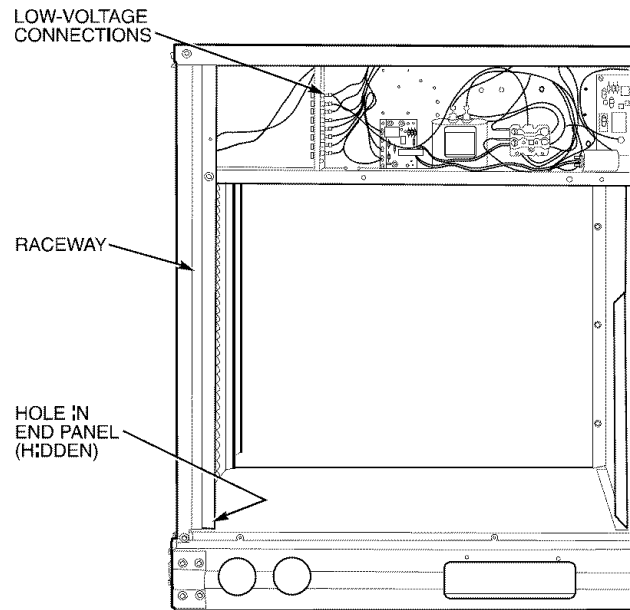

Fig. 10 — Field Control Wiring Raceway
3. Feed the wire through the raceway built into the corner post to the 24-v barrier located on the left side of the control box. See Fig. 10. The raceway provides the UL-required clearance between the high-voltage and low-voltage wiring.